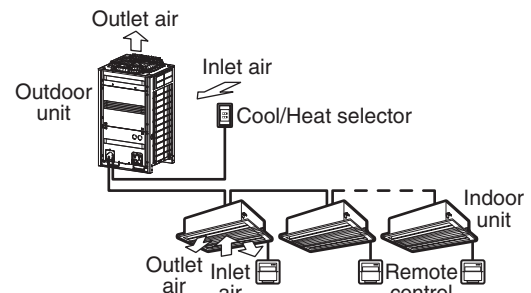

figure 1
Outdoor units (Refer to figure 1)
- Names and functions of parts (Refer to figure 1)
(figure 1 shows system with Cool/Heat selector)
- In contradistinction to actual operating situations, the display on figure 1 shows all possible indications.